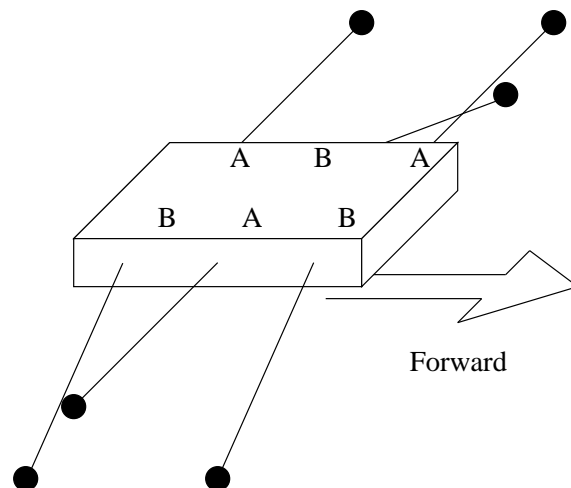

Figure 7.2: A hexapod walking robot.
11. **(16 pts.)** Build a FSM which make the hexapod robot shown in Figure 7.2 walk forward.
The hexapod robot walks by moving three legs in unison; see A and B in Figure 7.2. The movements of A and B are coordinated so that, at times, the hexapod is balanced on three legs. A portion of the walking gate is shown in Figure 7.3, note that in this figure you are looking down at the top of the robot which is moving to the right. The dotted legs are assumed to be in the air, solid legs are in contact with the ground.